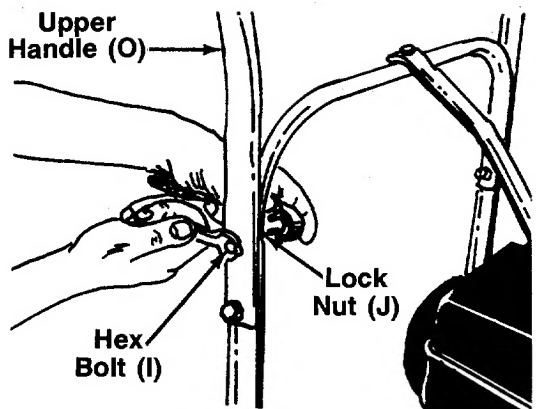

FIGURE 5.
Place the upper handle (O) in position over lower handle. Fasten with four hex bolts (I) and lock nuts (J) provided. See figure 5. Two 7/16" wrenches are required.